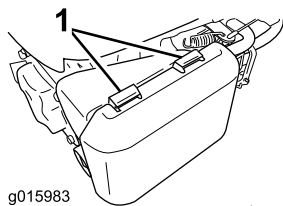

Figure 24
1. Press down on the latch tabs on top of the air cleaner cover (Figure 24).